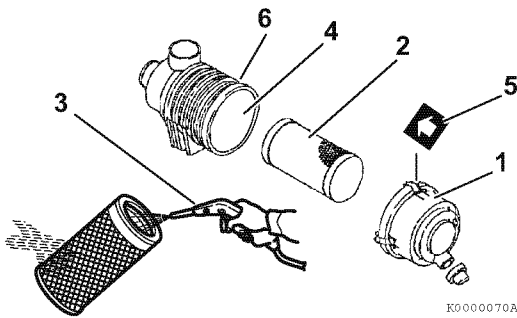
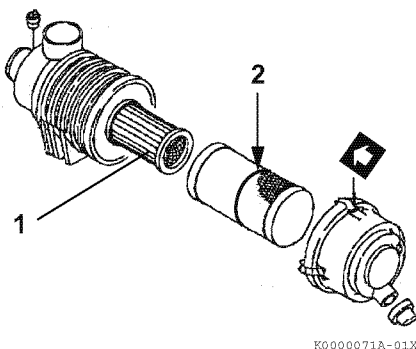

Figure 9
Figure 10
Note that a typical air cleaner is shown in **Figure 9** and **Figure 10** for illustrative purposes only.
1. Unlatch and remove the air cleaner cover (1, **Figure 9**).
2. Remove the element (2, **Figure 9**) (outer element if equipped with two elements).
3. Blow air (3, **Figure 9**) through the element from the inside out using 42 - 71 psi (0.29 - 0.49 MPa, 3.0 - 5.0 kgf/cm²) compressed air to remove the particulates. Use the lowest possible air pressure to remove the dust without damaging the element.
4. If the air cleaner is equipped with a double element, only remove and replace the inner element (1, **Figure 10**) if the engine lacks power or the dust indicator actuates (if equipped).
7. Reinstall the element into the air cleaner case (4, **Figure 9**).
- Note: If there is a red line (2, **Figure 10**) in the outer element, reinsert the element until the overlap position of red line and end face of the air cleaner case.*
8. Reinstall the air cleaner cover making sure you match the arrow (5, **Figure 9**) on the cover with the arrow on the case (6, **Figure 9**).
Replace the air cleaner element (2, **Figure 9**) every 500 hours even if it is not damaged or dirty.
When replacing the element, clean the inside of the air cleaner case (4, **Figure 9**).
If the air cleaner is equipped with a double element, only remove and replace the inner element (1, **Figure 10**) if the engine lacks power or the dust indicator actuates (if equipped). This is in addition to replacing the outer element.